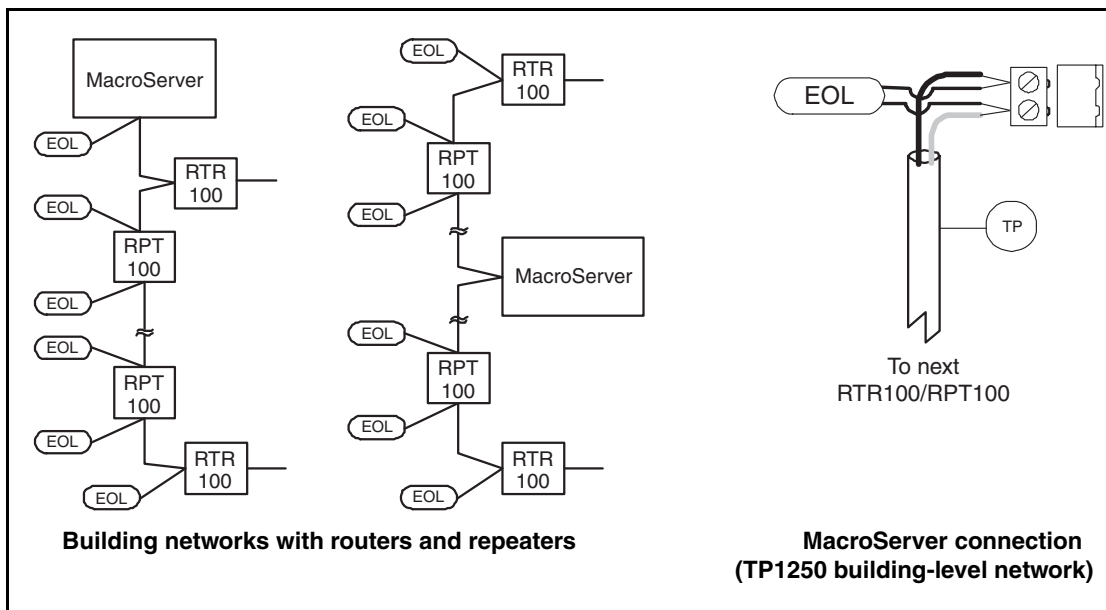

Figure 4
- If practical, locate the MacroServer as close to the middle of the TP1250 channel as possible (Figure 4).